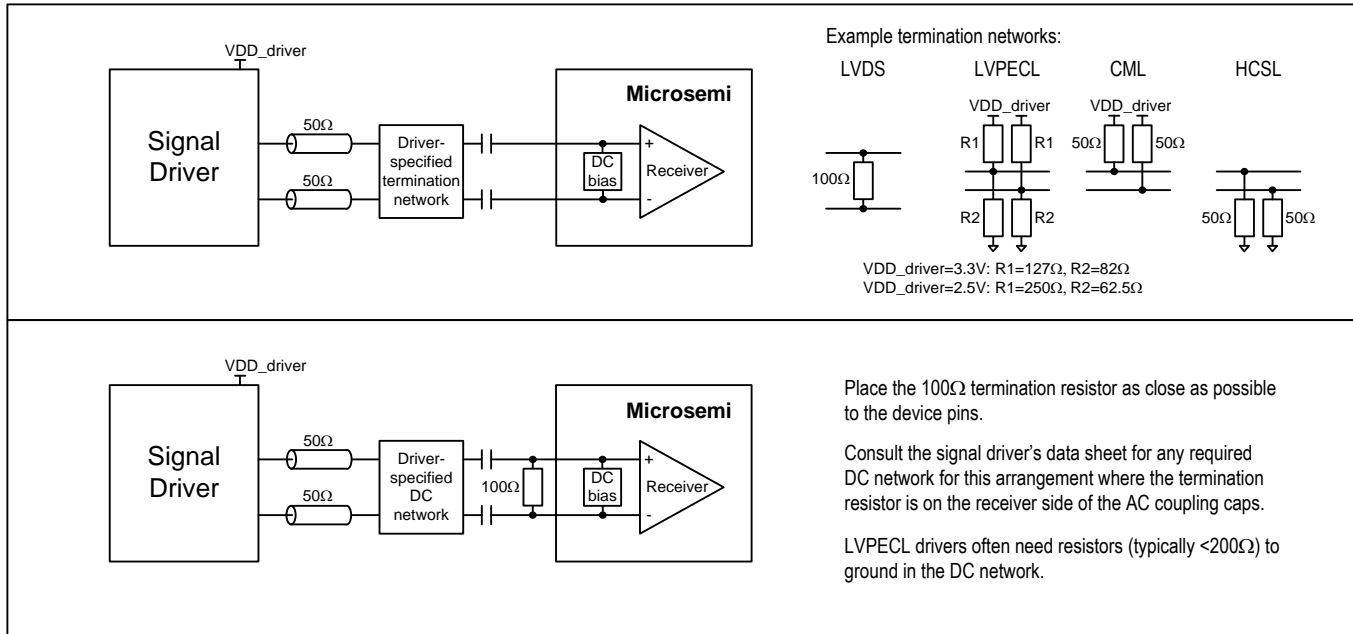

Figure 13 - Example External Components for Differential Input Signals
- Note 3: Differential signals.** The differential inputs can easily be interfaced to neighboring ICs driving LVDS, LVPECL, CML, HCSL, HSTL or other differential signal formats using a few external passive components. In general, Microsemi recommends terminating the signal with the termination/load recommended in the neighboring component's data sheet and then AC-coupling the signal into the ICxP/ICxN pins. See Figure 13 for details. To connect a differential signal to IC3, AC-couple one side of the signal to IC3P and AC-couple the other side to VSS. For DC-coupling, treat the input as 1.8V CML.